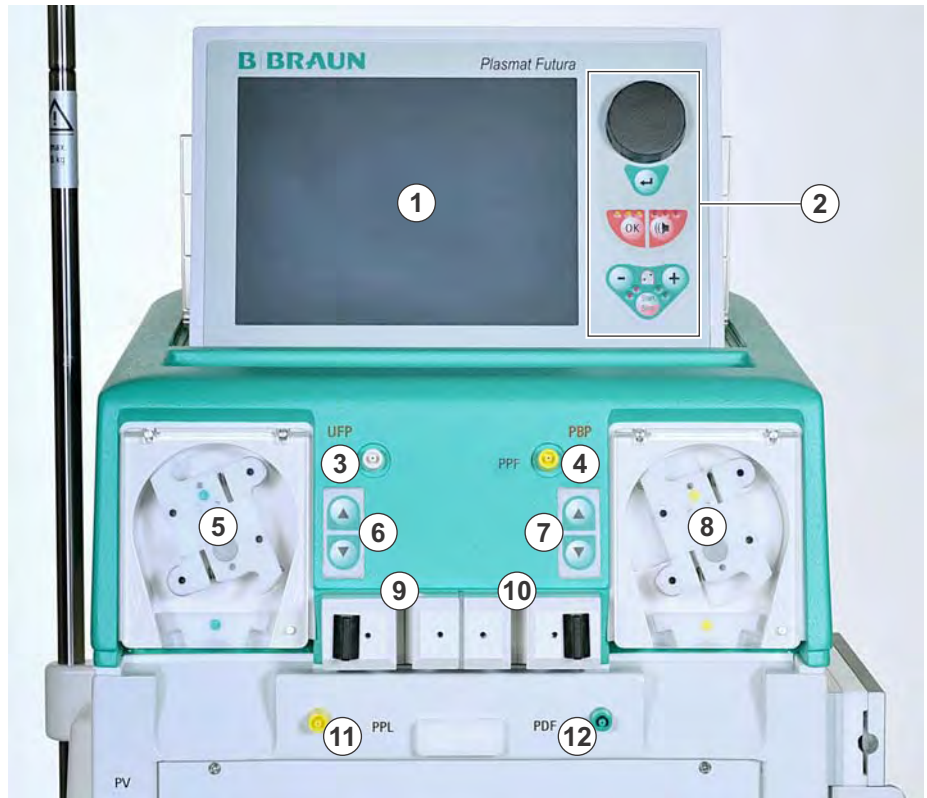
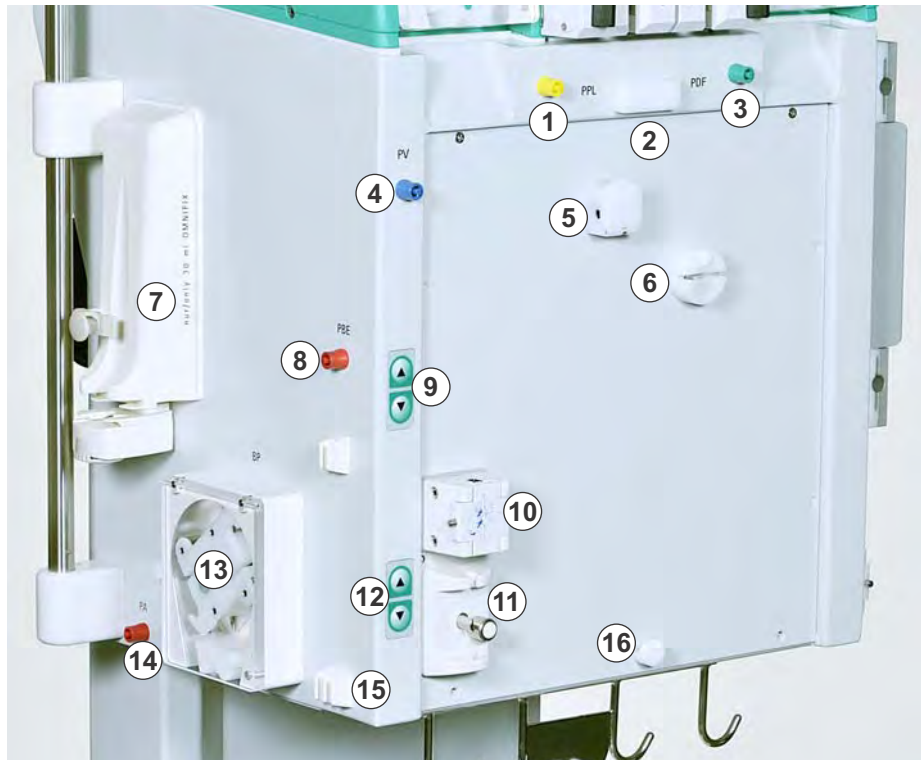

Fig. 2-4 Upper module
Fig. 2-5 Central module, front-left view
The level adjustment keys are located at the front of the upper module (see Fig. 2-4 Upper module (27)) and at the front of the central module (see Fig. 2-5 Central module, front-left view (28)).